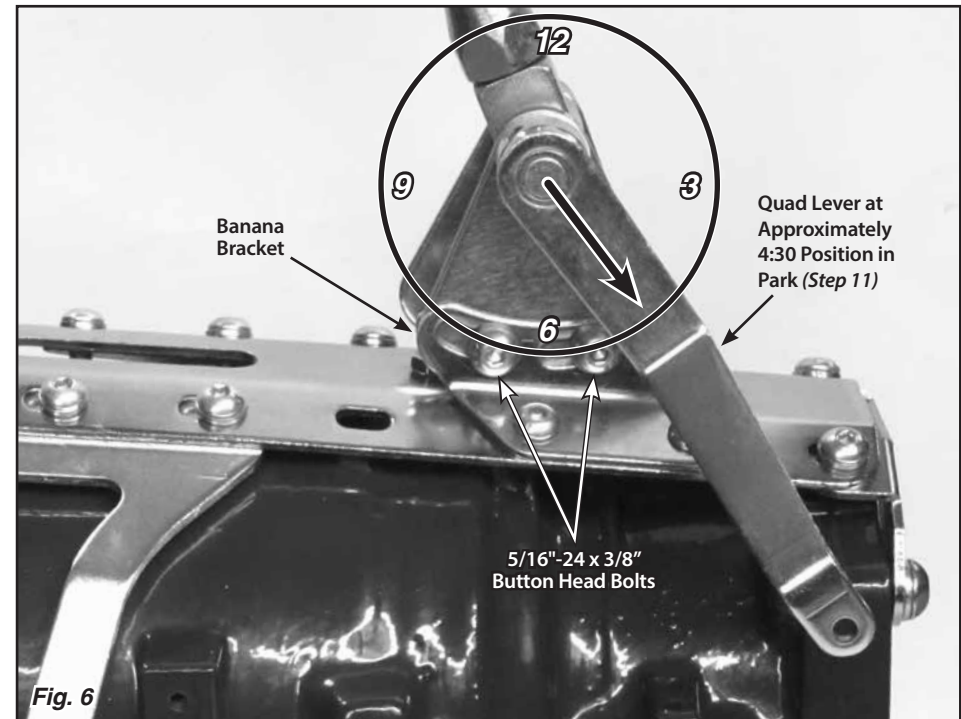

Fig. 6
**Step 10:** Make sure the two 5/16"-24 x 3/8" button head bolts that attach the left side banana bracket to the shifter assembly (in the curved, slotted holes) are tight. Before tightening the shifter assembly down to the main plate, move the shifter lever through all the gear positions. Make sure that the shifter lever and knob will not come in contact with the dash or the seat. The shifter assembly can be tilted forward or backward if needed by loosening the 5/16"-24 x 3/8" button head bolts in the curved, slotted holes in the left side banana bracket. **Fig. 6**
**Step 11:** Put the shifter lever into the Park position and check the position of the quad lever. It will need to be pointing to about the 4:30 position. If it is not, loosen the set screw in the top of the quad lever with a 1/8" Allen wrench and slide the quad lever off of the shaft. Reposition it on the shaft at approximately the 4:30 position, and retighten the set screw. **Fig. 6**
Double check to make sure that the bolts connecting the **left** side banana bracket to the shifter assembly are tight. **Fig. 6**